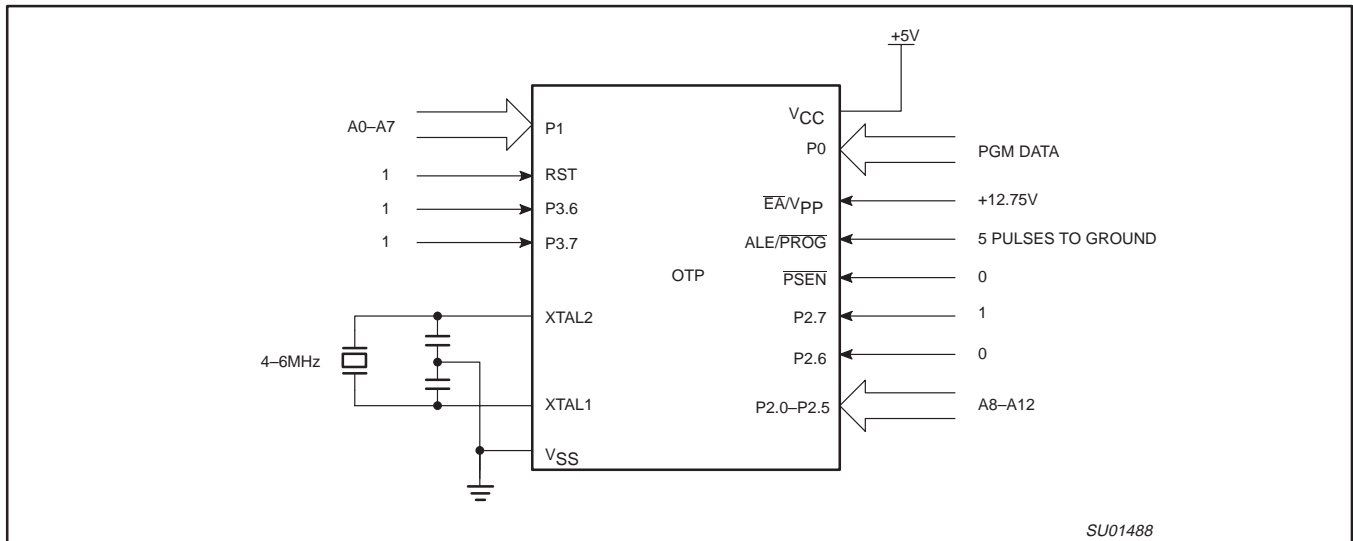
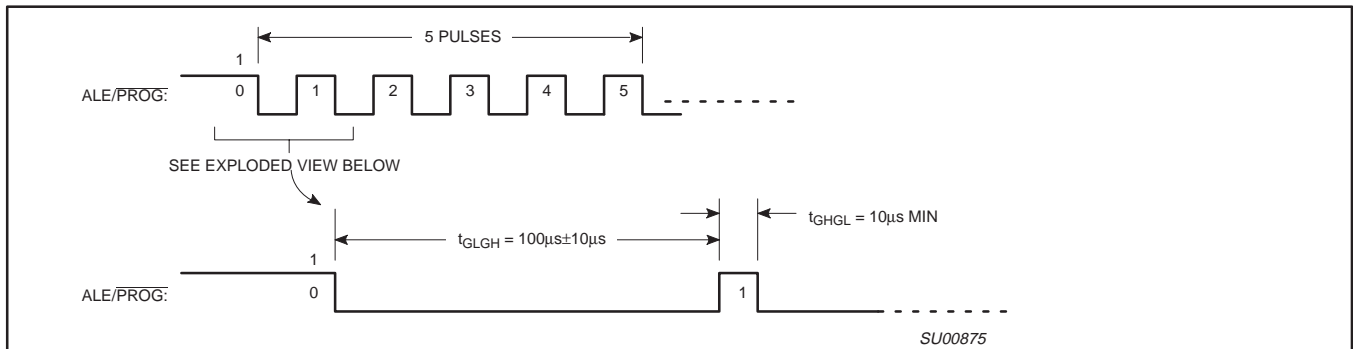
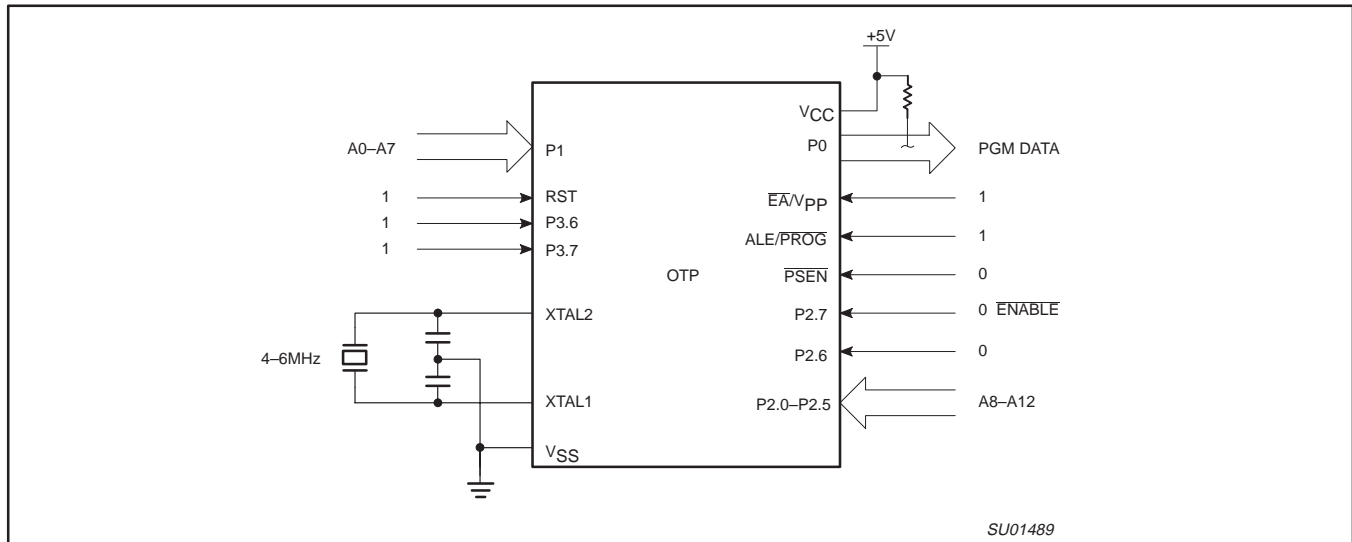

Figure 40. Programming Configuration
Figure 41. PROG Waveform
Figure 42. Program Verification
Table 8 shows the logic levels for reading the signature byte, and for programming the program memory, the encryption table, and the security bits. The circuit configuration and waveforms for quick-pulse programming are shown in Figures 40 and 41. Figure 42 shows the circuit configuration for normal program memory verification.
The setup for microcontroller quick-pulse programming is shown in Figure 40. Note that the device is running with a 4 to 6 MHz oscillator. The reason the oscillator needs to be running is that the device is executing internal address and program data transfers.
The address of the EPROM location to be programmed is applied to ports 1 and 2, as shown in Figure 40. The code byte to be programmed into that location is applied to port 0. RST, PSEN and pins of ports 2 and 3 specified in Table 8 are held at the 'Program Code Data' levels indicated in Table 8. The ALE/PROG is pulsed low 5 times as shown in Figure 41.
If security bits 2 and 3 have not been programmed, the on-chip program memory can be read out for program verification. The address of the program memory locations to be read is applied to ports 1 and 2 as shown in Figure 42. The other pins are held at the 'Verify Code Data' levels indicated in Table 8. The contents of the address location will be emitted on port 0. External pull-ups are required on port 0 for this operation.
- * FOR PROGRAMMING CONFIGURATION SEE FIGURE 40.
FOR VERIFICATION CONDITIONS SEE FIGURE 42.